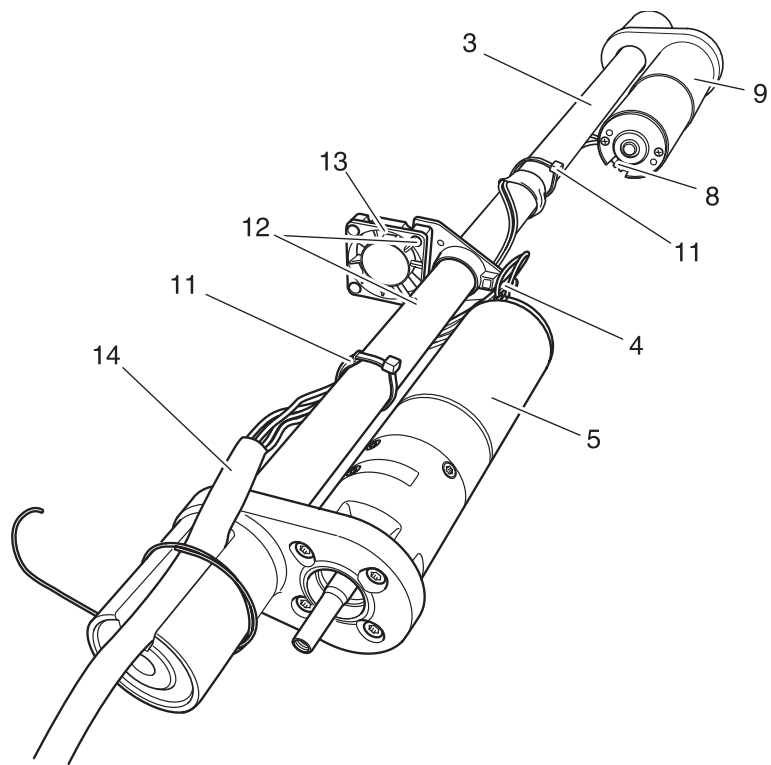

Fig. 4a
- Remove the driving units with the flanged pipe 3 (fig. 4a).
- Run wire branch 14 as shown in fig. 4a.